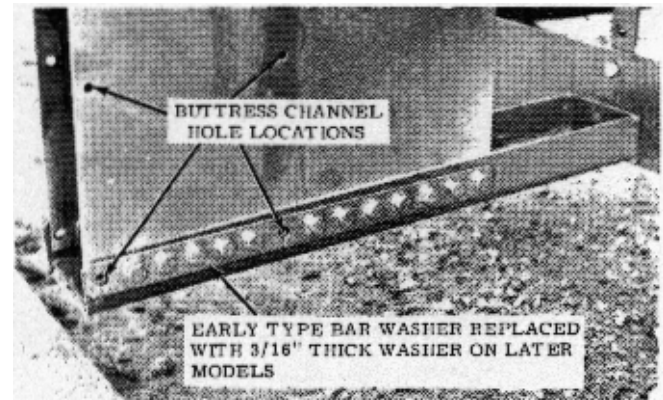

FIG. 4 VIEW OF BOTTOM BUTTRESSES LOOSELY ATTACHED TO CHANNEL BRACKETS (3 MODULE DRYER SHOWN)
- E. Use 1 1/2" x 1/2" Dia. bolts with a 3/16" thick (7 ga.) washer under each bolt head and nut, and LOOSELY connect the bottom buttress ends to the foundation channel brackets. See Fig. 4.